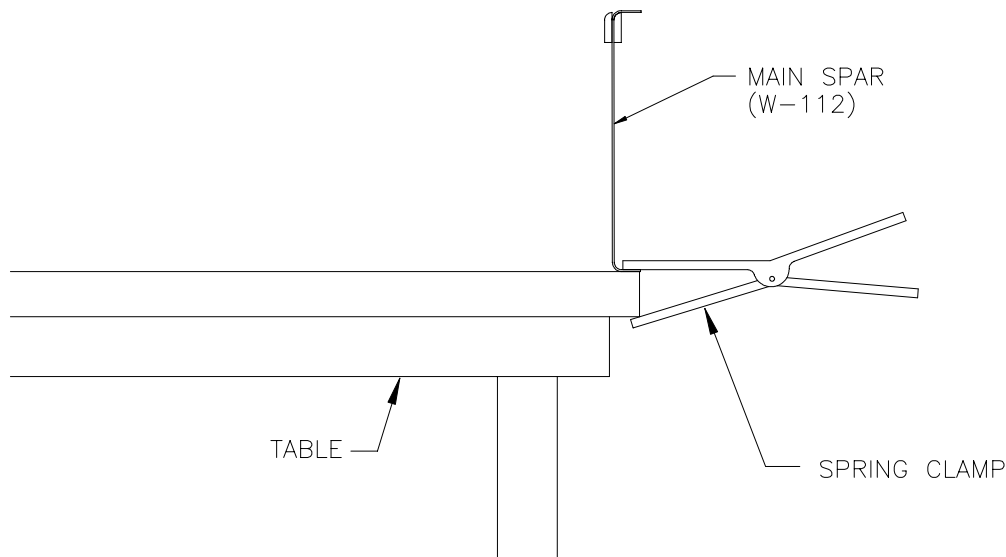

Figure 8.2.1
1) Clamp the Main Spar to the table edge. Figure 8.2.1.